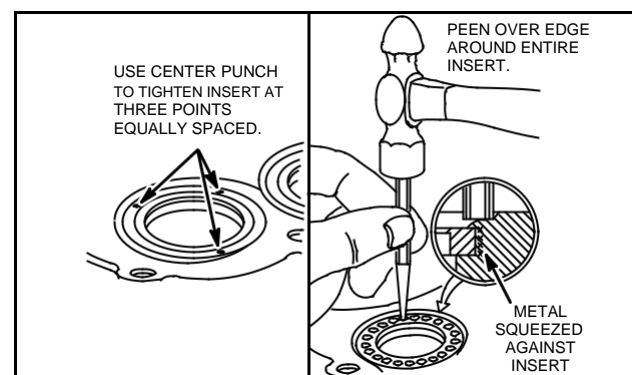

Fig. 30 – Peening Valve Seat
9. Peen new seat insert, Fig. 30.